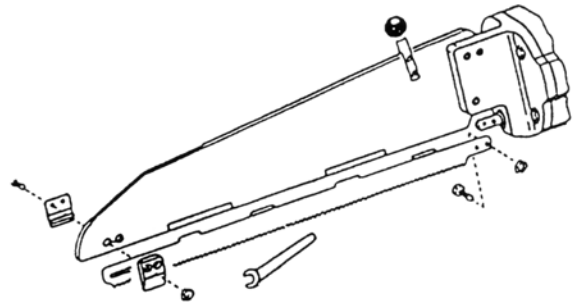

Figure 3: Saw blade changing
- Remove both hex. nuts (see chapter A.2, No. 96) at front and back and remove loose parts together with the saw blade (see Fig. 3)